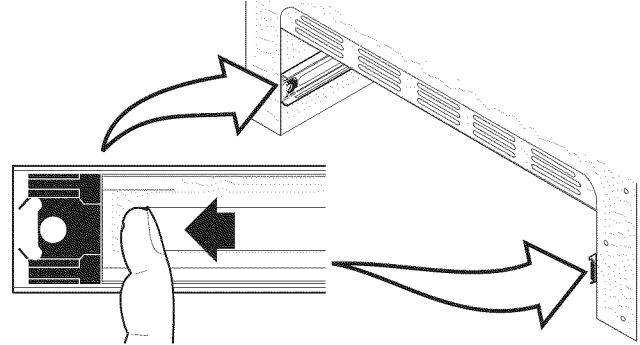

Figure 55: Bearing glide placement
1. Pull the bearing glides to the front of the outer compartment glide channels until they snap into place (See Figure 55).